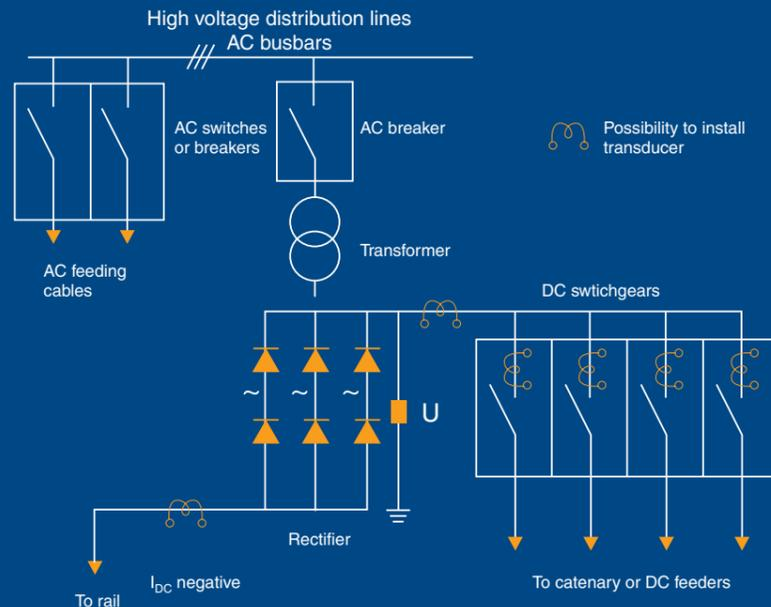

Figure 6: Typical Substation layout.
Generally, they are made up of (figure 6):
It is not unusual to find current transducers measuring earth leakage current from the rectifier to the rail (as represented in figure 6).
with defined trigger levels to open the switchgear without delay (as represented figure 6).
- During medium to high impedance short circuits, the DC switchgear must open within a few hundred milliseconds. Again, the combination of the current transducer and relay will trigger the switchgear to open, however, electronic analysis of the transducer output waveform would allow further consideration and decision making (as represented figure 6).
The protection can also be ensured by measuring the current at the rectifier output using the same current transducers previously indicated, and represented in figure 6.
The voltage at the DC switchgear or the DC busbar (rectifier output) is often monitored to ensure the right voltage supplied to the catenary (The LV 100-4000/SP2 and DV Voltage transducers are possible voltage transducers solutions as represented figure 6).